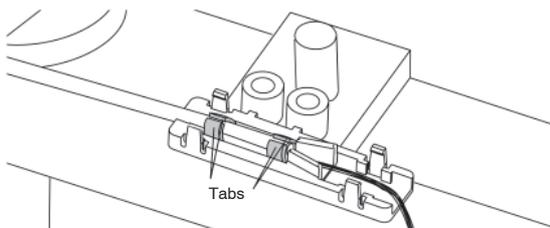

Figure 12
**6.9** Use pliers to gently bend the crimps tabs over the end of the buffer tube (Figure 12). Check the crimp for effectiveness by gently pulling on and twisting the tube – the tube should not move.